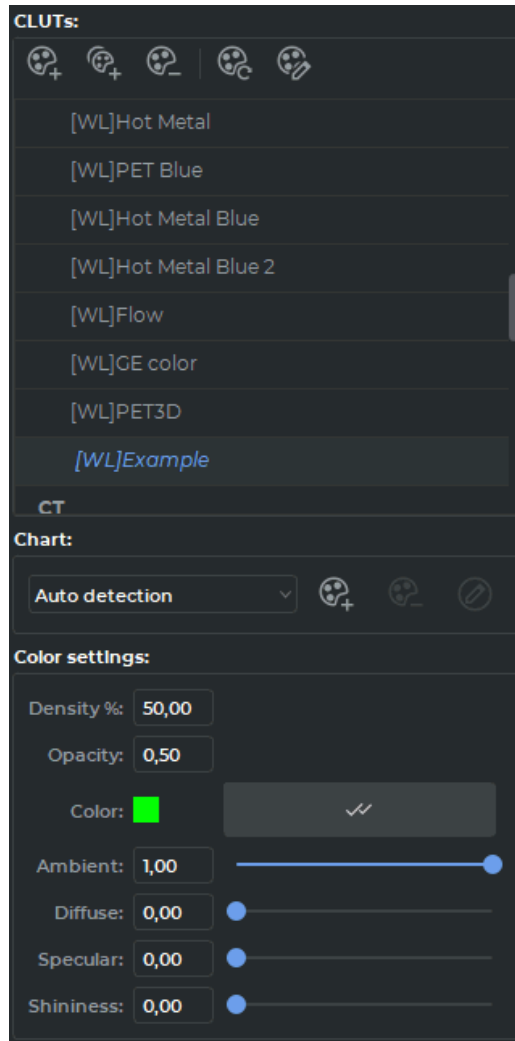

Figure 2.65: CLUTs setup panel
CLUTs setup panel is located on the right-hand side of the window (Fig. 2.65).
3. To rename a CLUT, double-click the left mouse button on it, enter the new name and press the **Enter** key on the keyboard. In our example, in Figure 2.65, the table is renamed «[WL]Example».